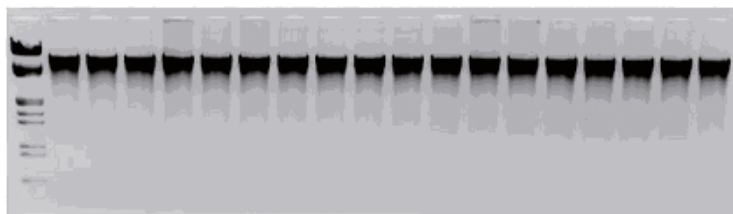

Fig. 5: Reproducibility: DNA isolation from 18 samples of 10 mg fresh-frozen mouse liver.
Eighteen samples of 10 mg mouse liver were subjected to the DNA isolation protocol. Agarose gel electrophoresis (Fig. 5), OD measurement, and PCR analysis using the LightCycler® Carousel-Based System showed good reproducibility. The coefficient of variance (CV) of DNA yield and purity were <10%, and the CV for the crossing points was <3%.